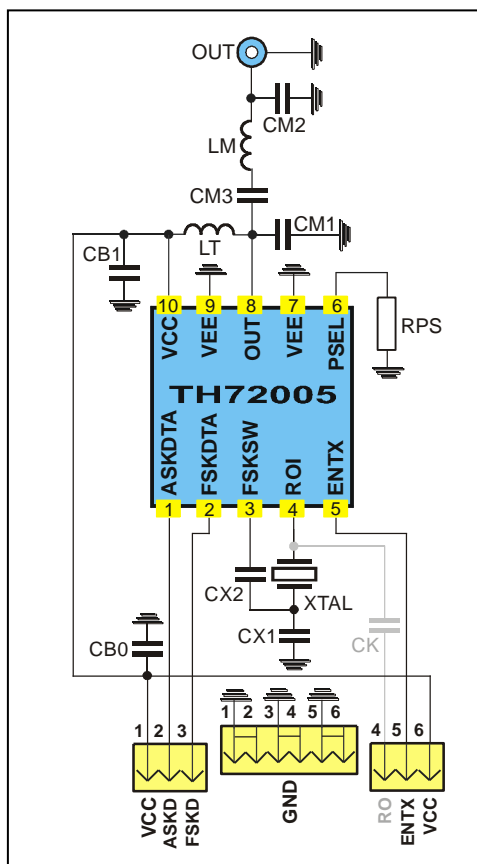

Fig. 7: Circuit diagram with 50 Ω matching network
4.1. Board Component Values to Fig. 7